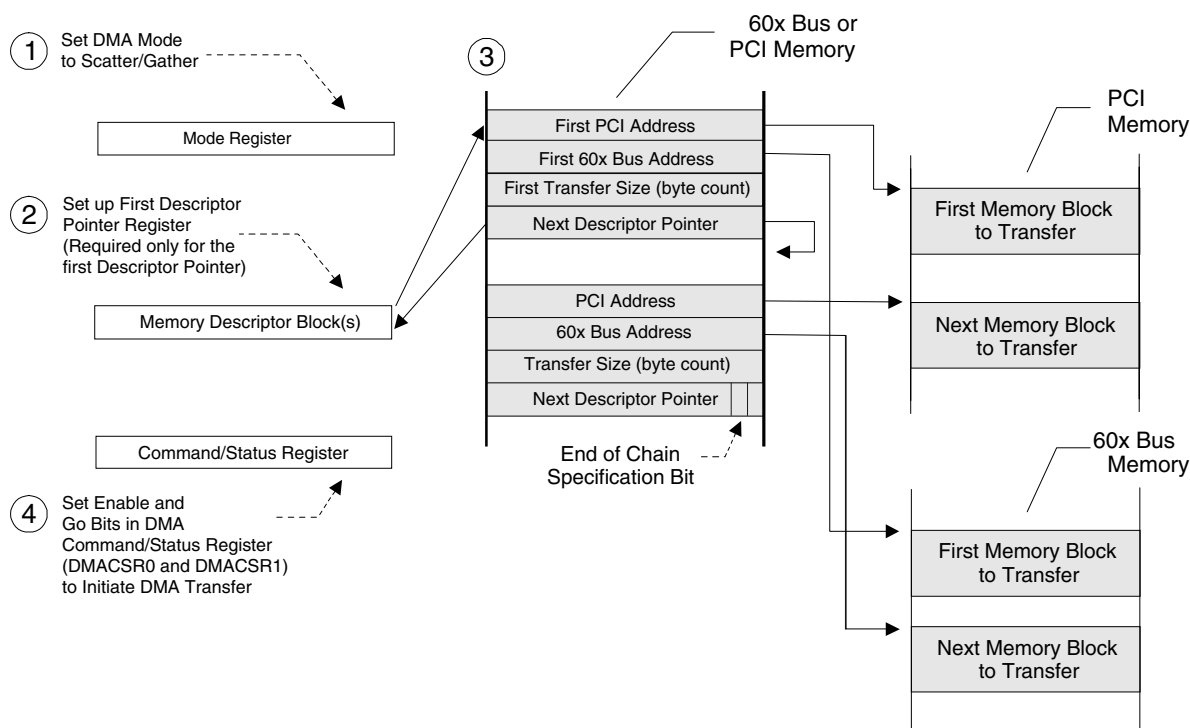

Figure 3-13. Scatter/Gather DMA Mode Descriptor Initialization [PCI SAC/DAC PCI Address (DMADACx) Register Dependent]
- DMADACx contains a non-zero value. DMAMODEx[18] is set to 0. The PCI 9610 performs a Single Address Cycle (SAC) four-Lword descriptor block load from PCI memory and DMA transfer with DAC on the PCI Bus. (Refer to Figure 3-13.)